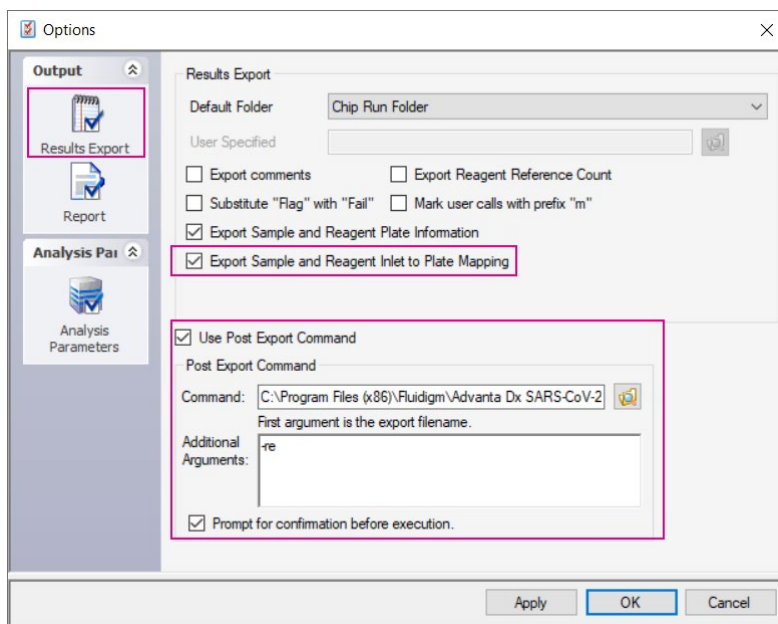

Figure 1. Results Export options
- b Click the **Results Export in the Output** section (Figure 1 on page 4).